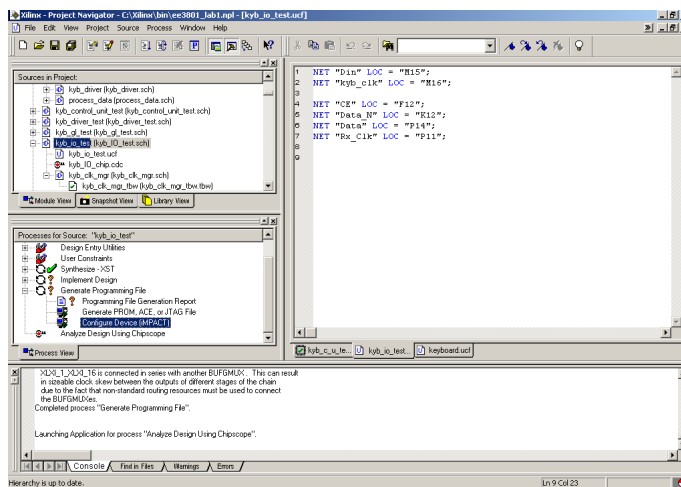

Figure 22
31. Make sure that your top design is selected in project navigator and click on “Configure Device IMPACT”(Figure 22). This generates a new bit file accompanied with the ILA core that you just added and load the new bit file into the board.
34. Note that in your project navigator a new icon is added at the bottom of the process window as shown in Figure 22. Double click on “Analyze Design Using Chipscope”. This launches the ChipScope pro analyzer.